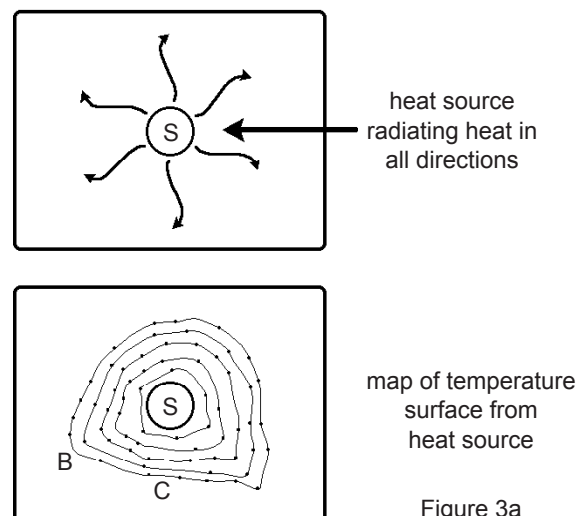

Figure 3a
Engineers often “map” the flow of heat using computer programs. Figure 3a shows how a contour map of surface temperature distribution from a heat source (S) might look. Each ring represents a temperature value that may have been recorded by sensors, or simulated mathematically via a complex computer code. Obviously, the path from S to A is one of high thermal conductivity; and S to B is another path of good thermal conductivity. However, path S to C is not as good. Such maps would be of value for examining the thermal conductivity of soils, metals, and various materials, and might also include a three-dimensional aspect to the flow of heat. These types of representations are also commonly used to show the movement of heat through liquids, such as the thermal discharge into a river from a large power plant or gaseous heat discharge from a chimney or stack.